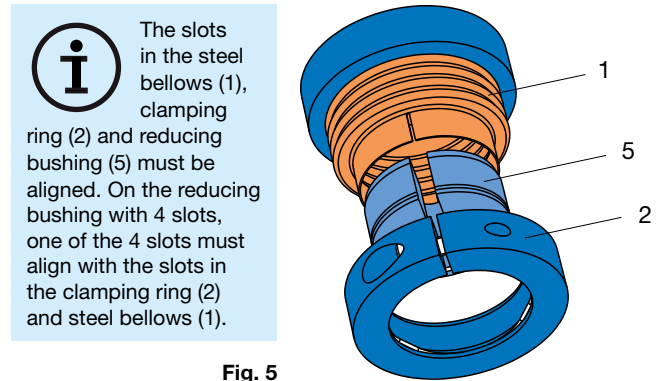
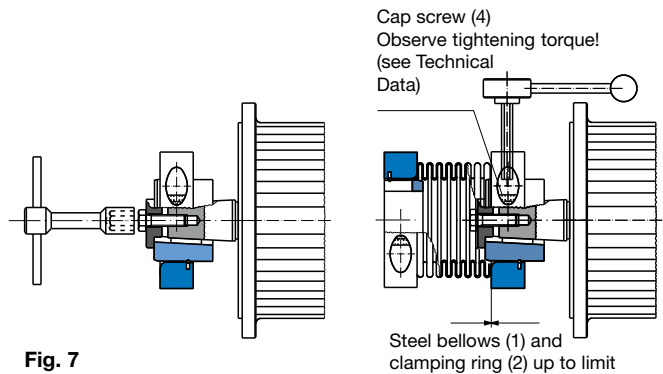
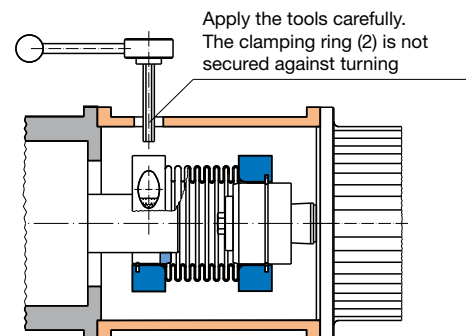

Fig. 5
Fig. 7
Fig. 8
- Avoid damage to the steel bellows (1) before and during installation.
- The clamping ring (2) with the holding spring (3) must be engaged in the reducing bushing (5) or reducing bushing with tapered bore (6).
- In order to transfer the defined torques in Table 1 (page 5) correctly, the slots in the steel bellows (1), clamping ring (2) and reducing bushing (5) must be aligned (see Fig. 5).
– see also Fig. 6 and Fig. 8
2. Push the entire coupling over the whole length of the reducing bushing (5) onto a shaft.
3. Make sure that the steel bellows (1) is pushed between the clamping ring (2) and the reducing bushing (5) up to its limit, and that the slots in the steel bellows, clamping ring (2) and reducing bushing (5) are aligned (see Fig. 5).
4. Tighten the cap screw (4). The screw tightening torques (see Technical Data, page 4) must be observed.
5. Push the second shaft over the entire length of the reducing bushing (5) into the coupling.
6. Make sure that the steel bellows (1) is pushed between the clamping ring (2) and the reducing bushing (5) up to its limit, and that the slots in the steel bellows, clamping ring (2) and reducing bushing (5) are aligned (see Fig. 5).
7. Tighten the cap screw (4). The screw tightening torques (see Technical Data, page 4) must be observed.
– see also Fig. 7 and Fig. 8
1. Remove the clamping ring (2) with the protruding reducing bushing with tapered bore (6) from the coupling.
3. Push the reducing bushing with tapered bore (6) onto the conical shaft.
4. Secure the reducing bushing with tapered bore (6) using a nut or screw with press cover.
5. Push the rest of the coupling with the open steel bellows side up to its limit between the clamping ring (2) and reducing bushing with tapered bore (6).
6. Tighten the cap screw (4). The screw tightening torque (see Technical Data, page 4) must be observed.
7. Push the second shaft over the entire length of the reducing bushing (5) into the coupling.
8. Make sure that the steel bellows (1) is pushed between the clamping ring (2) and the reducing bushing (5) up to its limit, and that the slots in the steel bellows, clamping ring (2) and reducing bushing (5) are aligned (see Fig. 5).
9. Tighten the cap screws (4). The screw tightening torques (see Technical Data, page 4) must be observed.